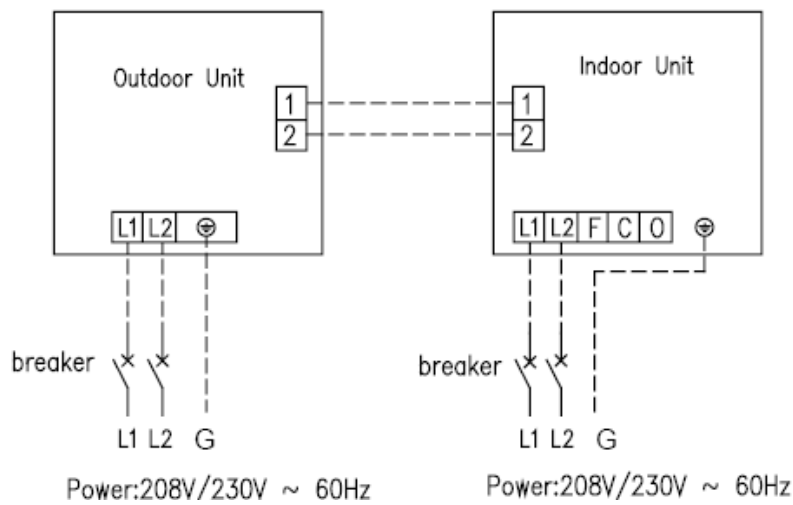

Figure 3-2-9
| ⑦. Connect the indoor unit connection cord properly based on the corresponding marks as shown in Figure 3-2-9.   |